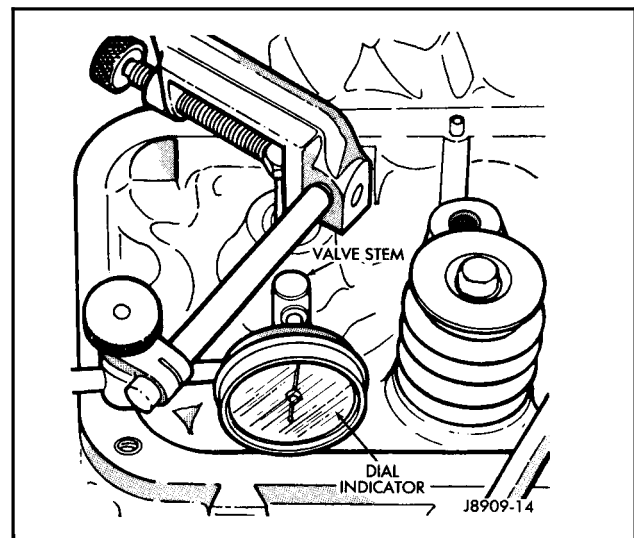

Figure 7-24
- a. Use a dial indicator to measure the lateral movement of the valve stem with the valve installed in its guide and barely off the valve seat (Figure 7-24).